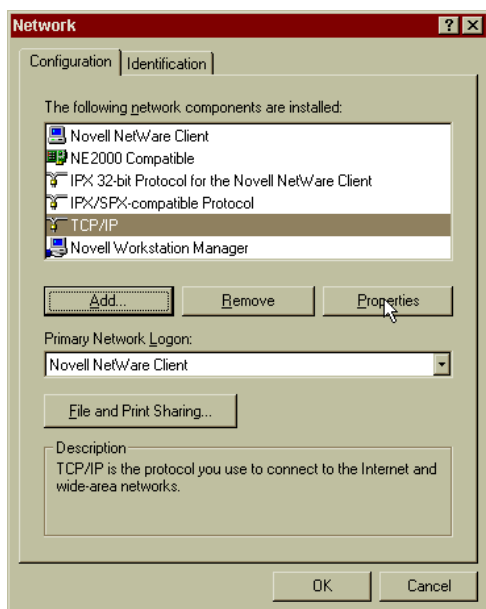
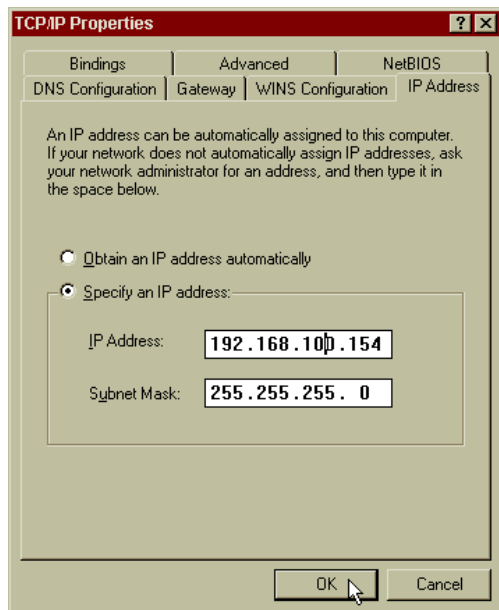

FIG. 94: NETWORK DIALOG BOX/SELECT PROPERTIES
FIG. 95: TCP/IP PROPERTIES/IP ADDRESS
- Step 9. Click on the Properties button. (See Fig.94) The TCP/IP dialog box appears. (See Fig. 95)